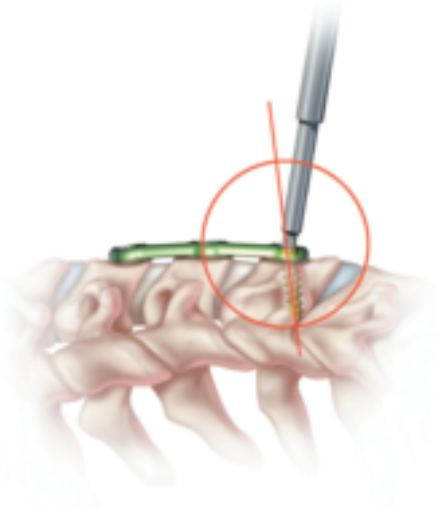

Figure 12a – Incorrect
- The shaft of the standard screwdriver must be aligned with the screw shaft; see figures 12a and 12b for proper alignment. Turn the driver counter-clockwise until the screw is disengaged from the bushing.